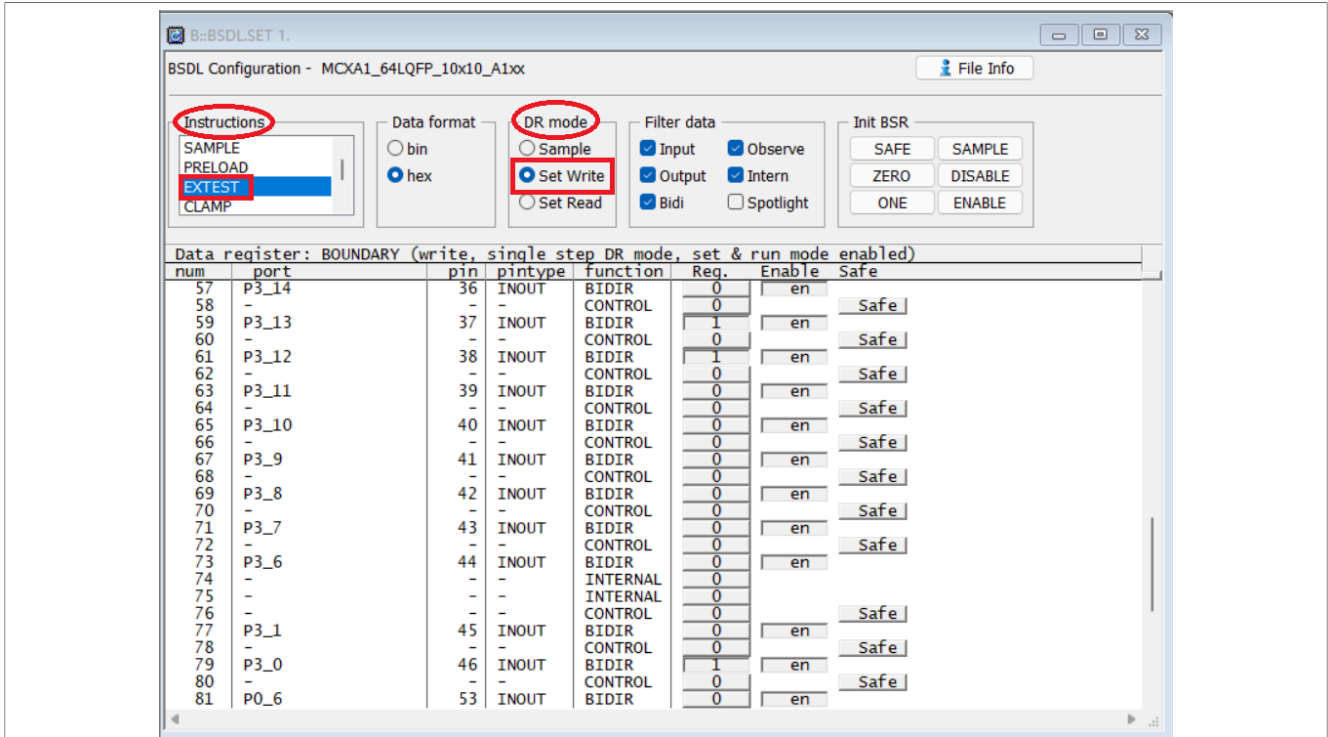

Figure 18. EXTEST settings in BSDL.SET window
- Enter the BSDL.SET command on the TRACE32 command line, and the BSDL.SET window appears. In the **Instructions** field, click **EXTEST** and in the **DR mode** field, choose **Set Write** as shown in Figure 18
Switch to the **Run** tab in the BSDL.state window and click **SetAndRun**, as shown in Figure 18.